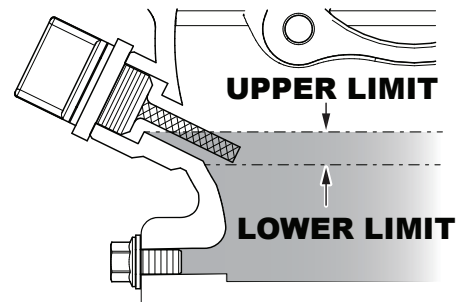

**Figure 4. Engine Oil Dipstick (Removal)**
2. Remove the filler dipstick from the engine oil filler hole (Figure 4) and wipe it clean.